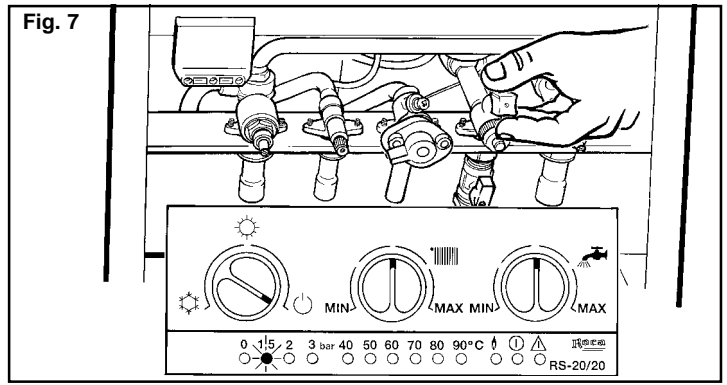
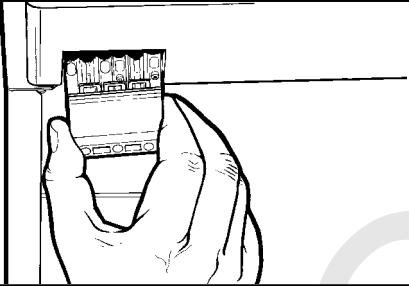

Fig. 2
Fig. 10
See Figure 2.
Check that the cock for gas supply to the boiler is open. See Figure 2.
Winter: Heating and Domestic Hot Water  Check that cocks (12), (15), (16) and (19) are open. See Figure 2.
Check that the cock (15) is open. During this period, it is recommended that cocks (12) and (16) be closed. See Figure 2. Turn the dial (1) to the  position (See Fig. 10). The boiler is now programmed to provide only Domestic Hot Water. Turn the DHW dial (3) to the temperature required. If there is a hot water demand at any tap, the boiler will start up.
In order to resume the service, turn the dial (1) as desired. If you wish to extinguish the pilot flame, close off the gas cock (14). See Figure 2.